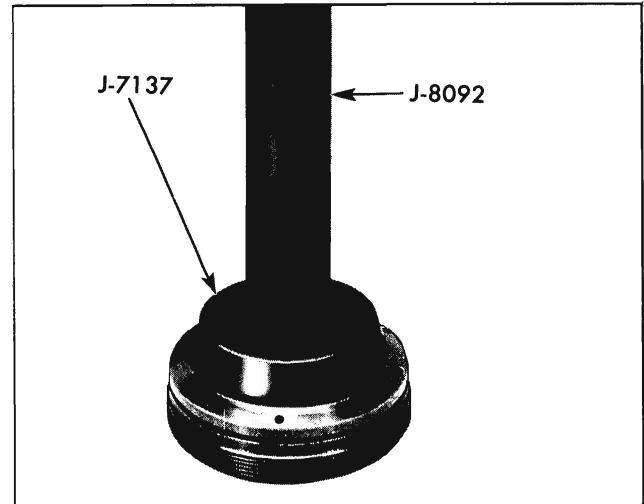

Fig. 4-55 Tool Positioned to Install Front Pinion Bearing Outer Race
1. Install front bearing race in nut using tool J-7137 with J-8092 handle (Fig. 4-55).